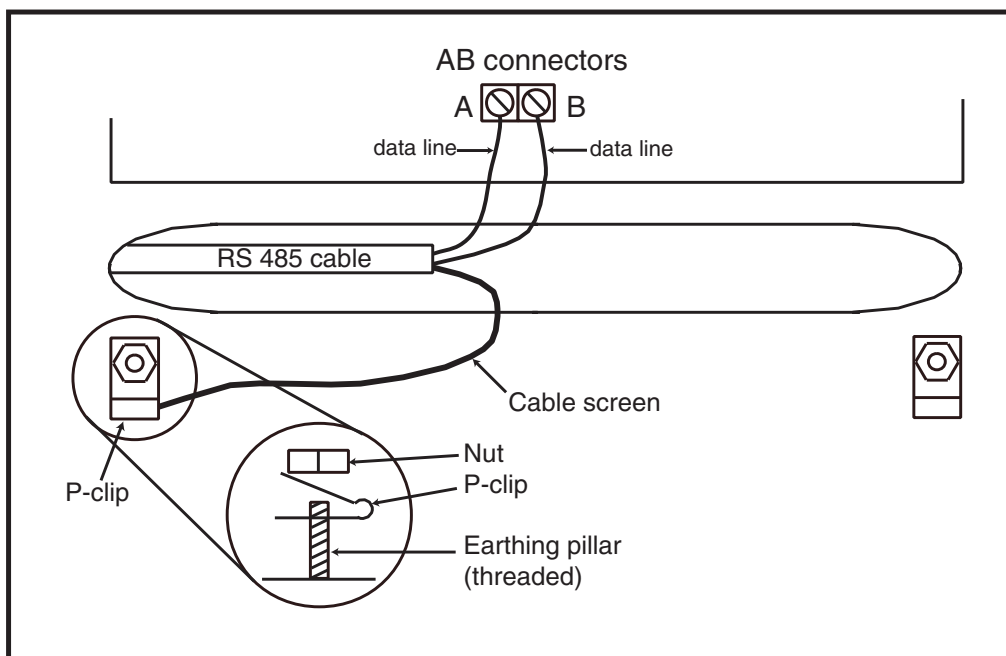

Figure 2-10. Connection of cable screen using P-Clip
- The cable used to connect the RS485 (AB) line **must** be screened twisted pair (Part No. **W002**) or Belden 8723 equivalent.
- Shielded twisted pair cable, where used, is connected to the earthing pillar on the Galaxy control panel using the P-clip and nut supplied (refer to Figure 2-10).